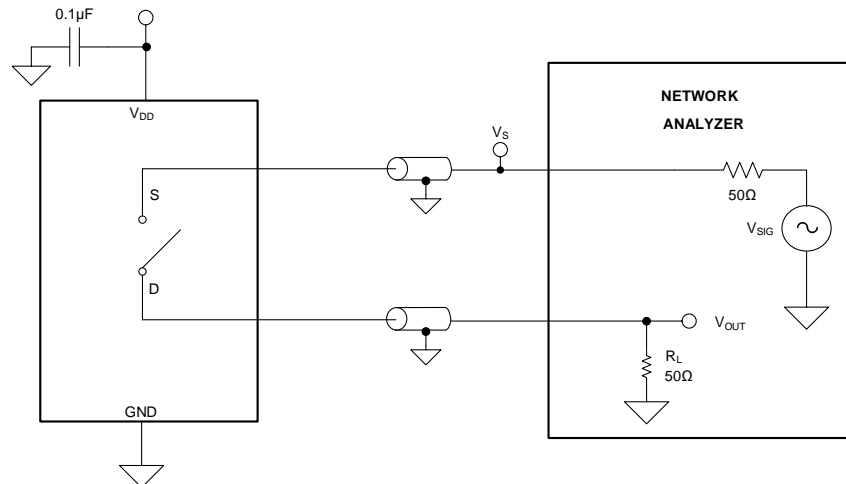

图 21. Off isolation measurement setup
Off isolation is defined as the ratio of the signal at the drain pin (D) of the device when a signal is applied to the source pin (S) of an off-channel. The characteristic impedance,  $Z_0$ , for the measurement is 50 Ω. 图 21 shows the setup used to measure off isolation. Use off isolation equation to compute off isolation.